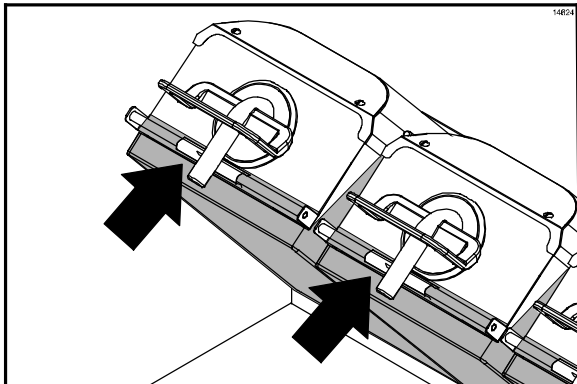

Figure 66
- 40. Re-install the upper release sheets. Secure the sheets with the locking clips and bars. (See Figure 66.)